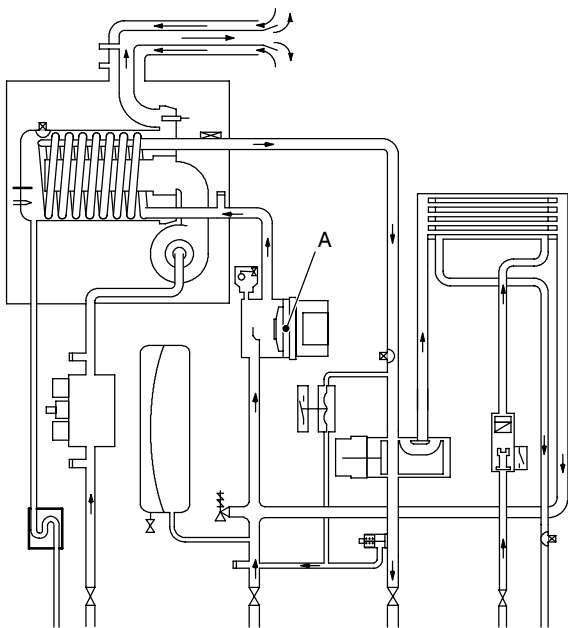
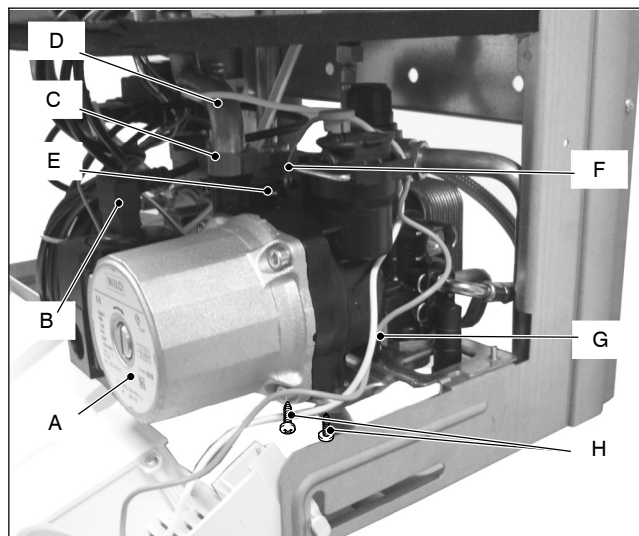

Fig. 7.1
Fig. 7.2
The pump *A* in Fig. 7.1 and Fig. 7.2 has the function of making the water in the main circuit circulate through the main condensing heat exchanger and therefore through the c.h. system (during the c.h. function) or through the secondary heat exchanger (during the d.h.w. function).
With the boiler off, remove the front panel and disconnect the connector *B* (Fig. 7.2).
- 4 Disconnect the connector *B* (Fig. 7.2).